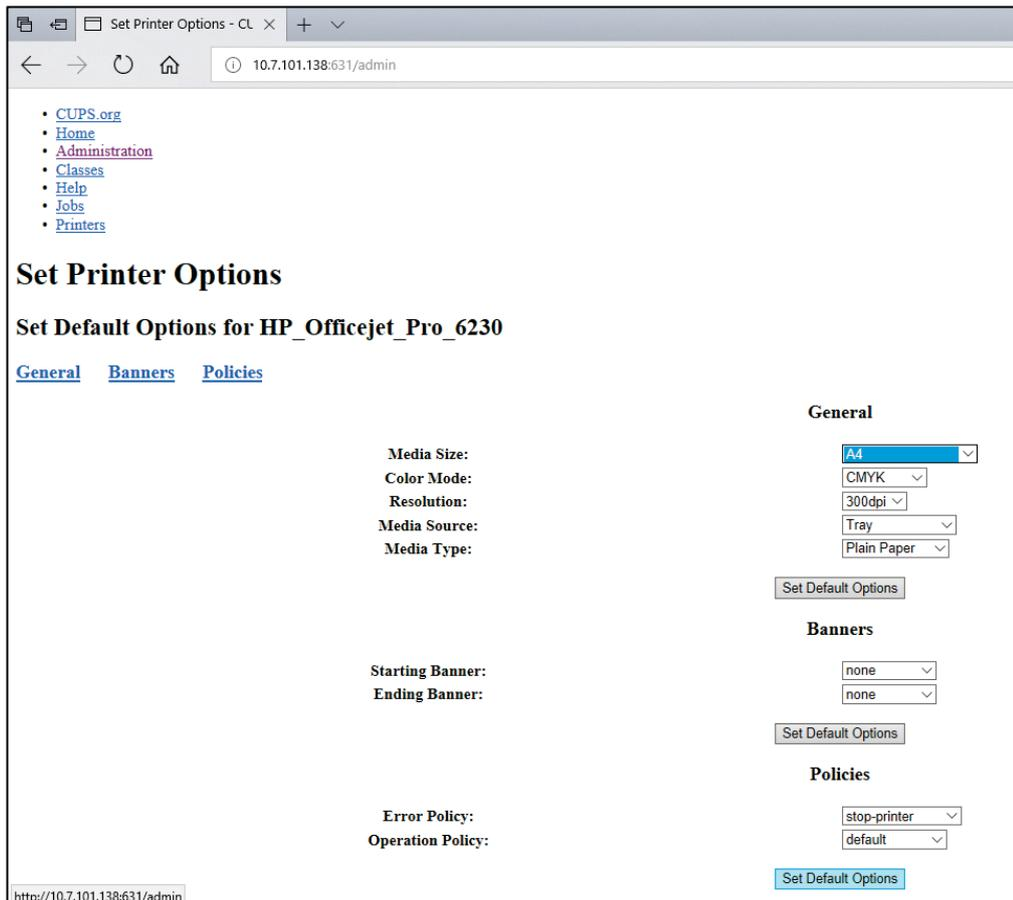

Figure 103. Selecting correct Media Size.
7. Select the correct **Media Size** (such as "A4"), because some printers will not print if the paper format is incorrect. Next, save the selection by pressing **Set Default Options** (Figure 103, next page).